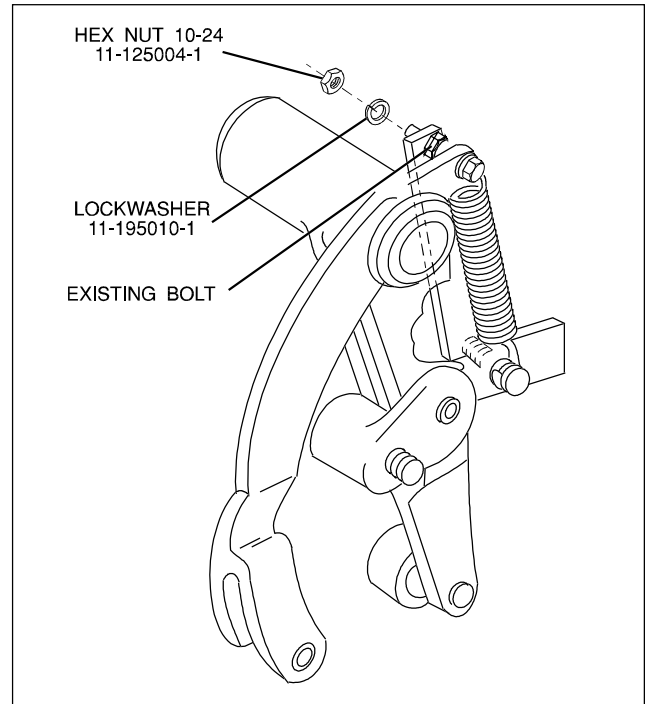

Figure 15. Flat Reset Lever Modifications
On pinsetters with the flat reset lever (part no. 12-100490-000): (See Figure 15)
- Install the included link (part no. 12-102033-000), lockwasher (part no. 11-195010-001) on the end of existing bolt as shown in Figure 15.